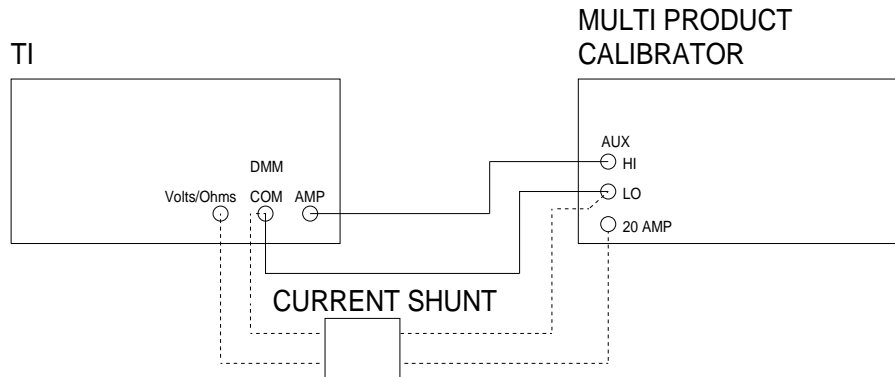

Figure 4.
4.21.2 Connect equipment as shown in Figure 4, using solid lines.
* Disconnect test setup. Connect equipment as shown in Figure 4, using dashed lines.
4.21.8 Disconnect test setup. Connect equipment as shown in Figure 4, using solid lines.